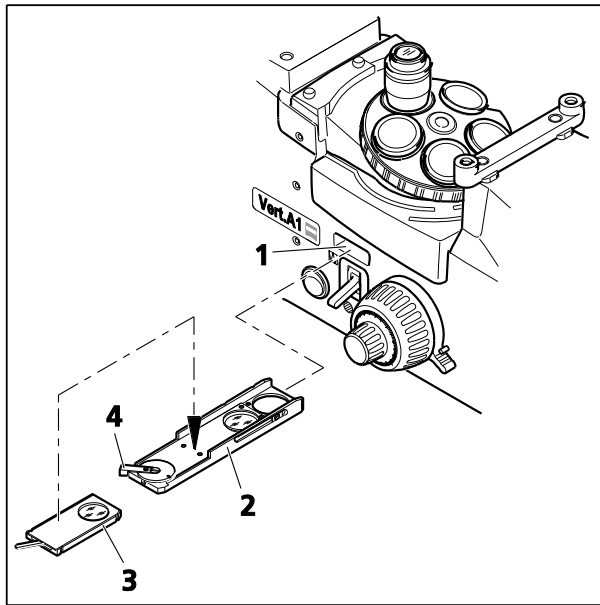

Fig. 4-17 Setting the Polarization
For the purpose of color-contrasting anisotropic materials, compensator Lambda or compensator Lambda Pol sub. $\pm 10^\circ$ (Fig. 4-17/3) may be used. To do so, place the compensator on the analyzer.
For the purpose of color-contrasting anisotropic materials, compensator Lambda Pol sub. $\pm 10^\circ$ (Fig. 4-17/3) may be used in addition to compensator Lambda. To do so, place the compensator on the analyzer.
- Insert the analyzer slider (Fig. 4-17/2) into the slot (Fig. 4-17/1) under the reflector turret. The analyzer can be rotated 90 degrees.
- Use the analyzer turning lever to cross the vibration direction of the analyzer and polarizer (Fig. 4-17/4) (dark position).